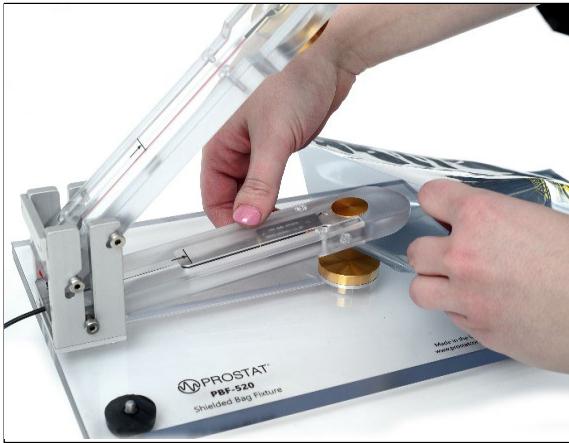
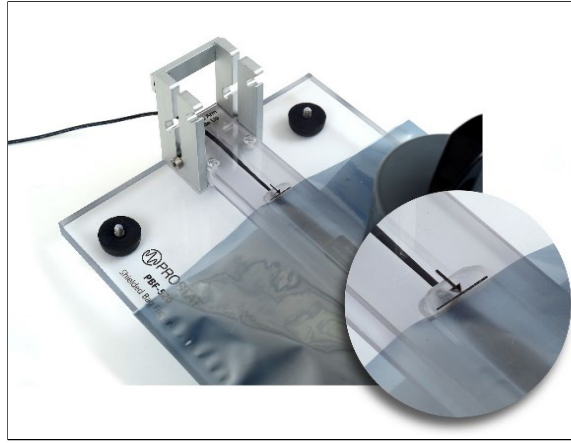

Figure 12. The Capacitive Arm inside the shielded bag.
Figure 13. The end mark on the Capacitive Arm represents 10 cm (4") from the top of the shielded bag.
3. Open the shielding bag to be tested and insert the **Capacitive Arm (D)** into the bag (Figure 12). Place the bag so the top of it lines up with the mark on the **Capacitive Arm** (Figure 13).